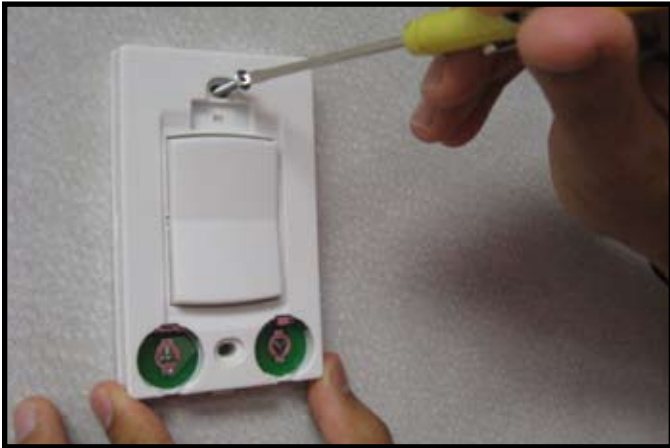

Figure 2. Mounting Wireless Wall Switch
3. Secure the wall switch on a flat wall surface using the two screws and wall anchors provided. See Figure 2. This device will fit into a standard size junction box.
4. Insert the two CR2032 batteries (supplied) into the circular slots with the positive side of batteries facing up. See Figure 2.